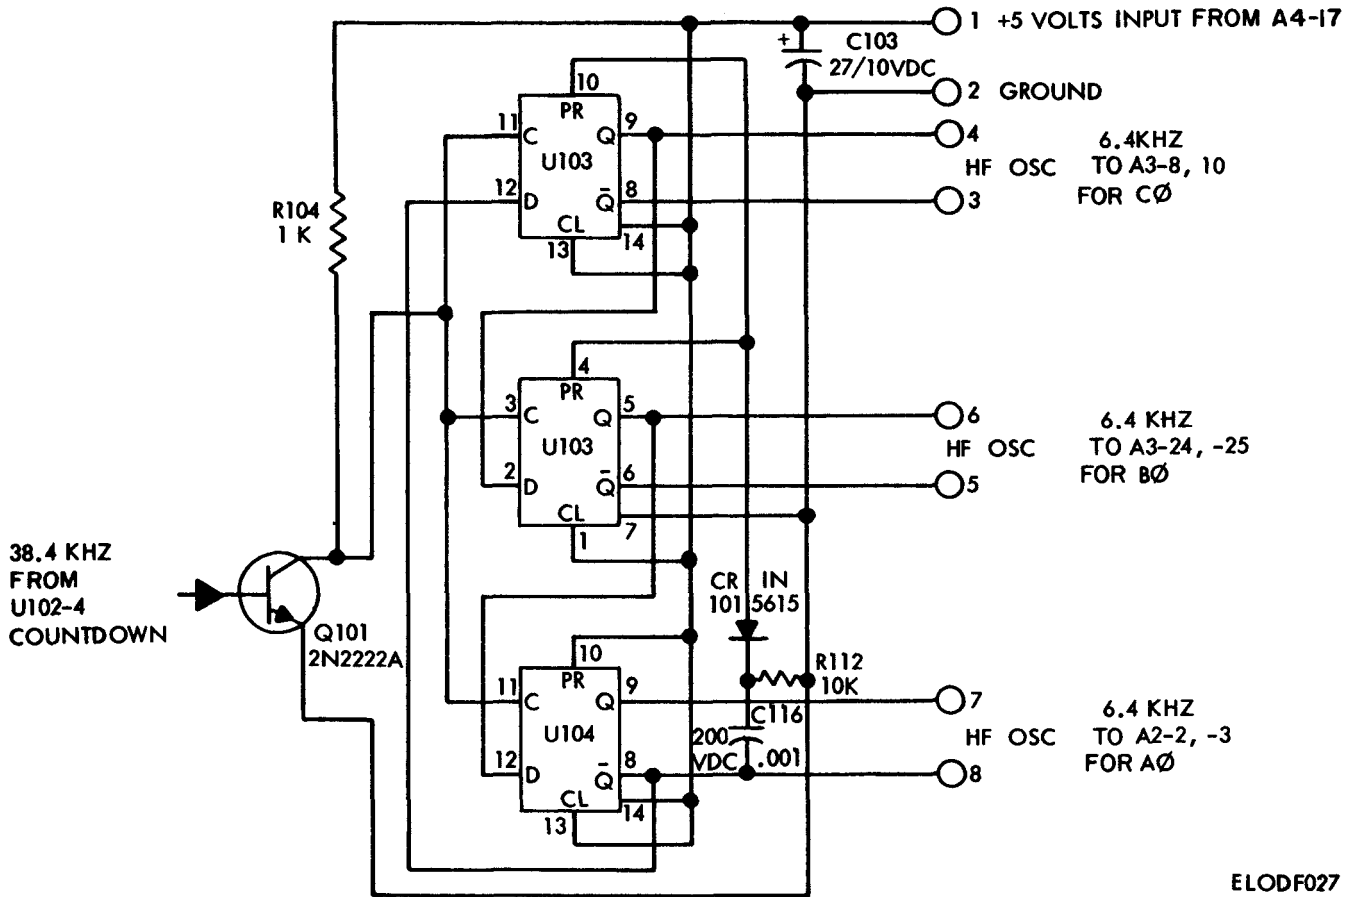

Figure 3-12. Divide-by-6 counter Q101.
a. The oscillator uses a piezoelectric crystal unit (Y101) to generate a high precision oscillation of 2.4576 MHz when a +5-volt input is applied. The oscillator (Y101, U101) provides the 2.4576 MHz square wave to countdown unit U102 which directs a 38.4-kHz signal to Q101B. This is conducted to a divide-by-6 circuit (U103, U104) to produce three 6.4-kHz high frequency square wave pulses for the three phases to use on the modulator boards (fig. 3-12).